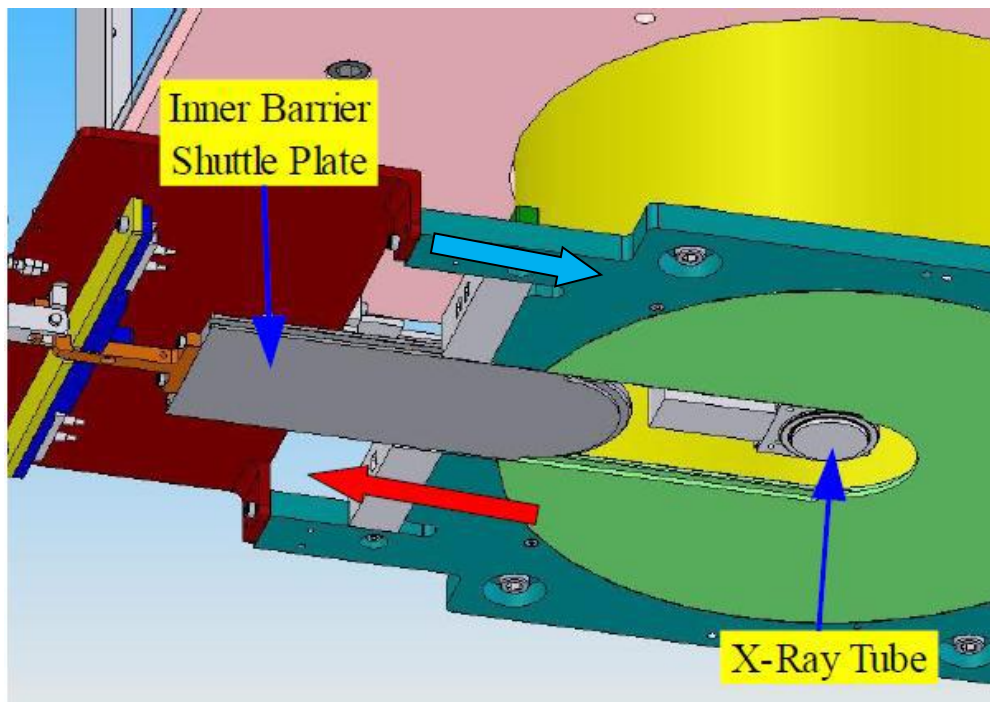

Figure 15
19. Manually push the inner barrier shutter plate, ensure X ray tube Beryllium surface is **NOT** Contain friction with Inner Barrier Shutter Plate as Figure 15.